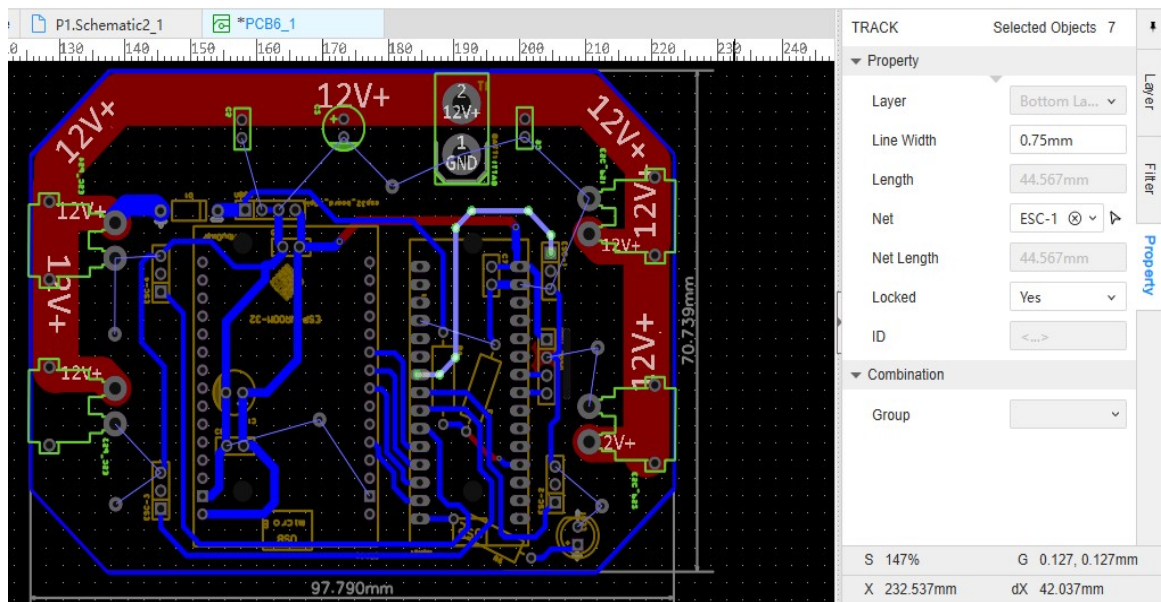

Fig.18. Track width
- Maintain track width at least 1.25 mm and 1.5mm for the signal wire and the power supply respectively and make sure that the main **12V power** track width is at least **7.5mm**(Refer to Fig. 18.). (or adjust based on current requirement) (Refer to Fig. 18 for details.)
- The pad size should be >1.6 mm. It makes soldering a lot easier, click on component pad, go to the property (on left hand side) > Size > edit diameter to 1.6 or greater. (As shown in Fig. 18)